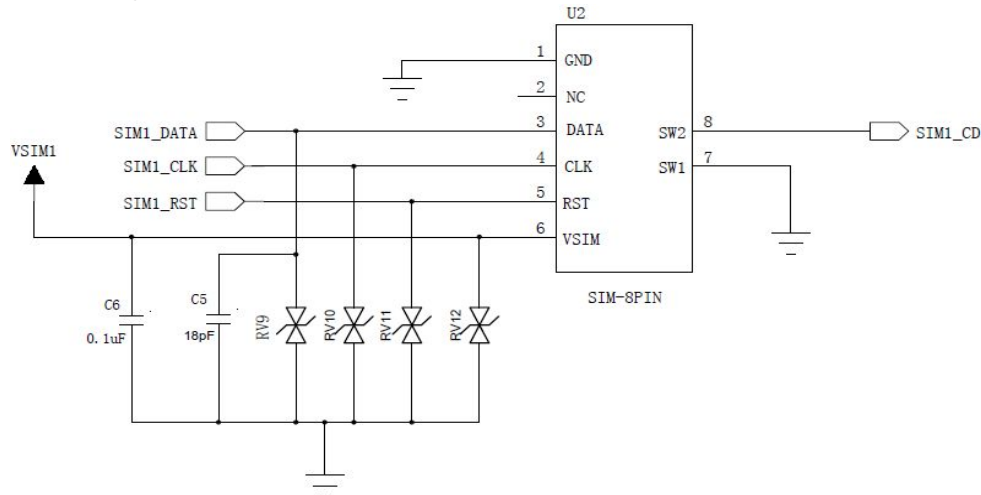

Figure 5-7 Reference Design of “Normally Closed” SIM Card Interface
- For “Normally closed” design, as shown in the figure5-7, the SIM1\_CD signal is connected to U2's Pin8 (SW2), and Pin7 (SW1) is connected to the ground. When the SIM card is not inserted, SW2 and SW1 are shorted, and SW2 is low. When the SIM card is inserted, SW2 and SW1 are opened, and the SIM1\_CD signal will be pulled high.